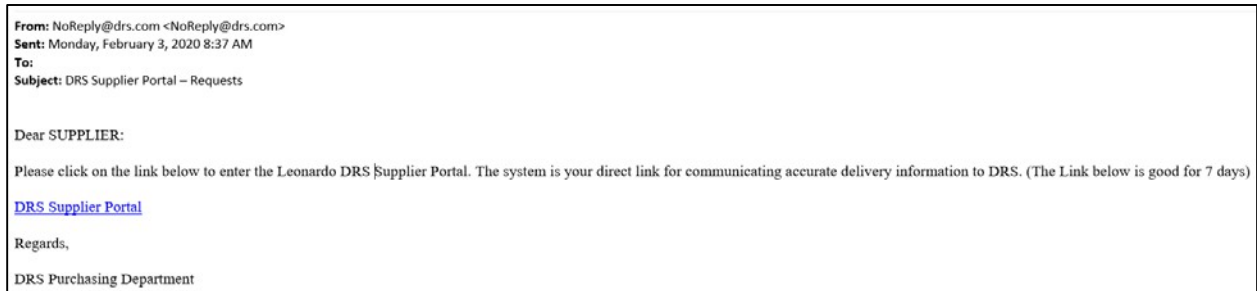

FIGURE 1: Portal Email
- Send an email to SupplierRequest@drs.com . You will receive an email back with a ‘Leonardo DRS Supplier’ link similar to the one below (See FIGURE 1) including the subject line of ‘DRS Supplier Request System’. Please click the ‘Leonardo DRS Supplier Portal’ link.